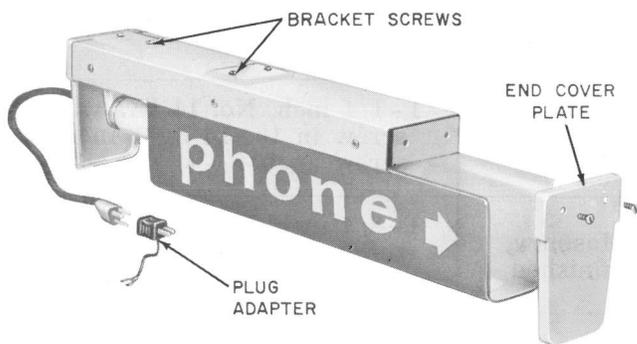

Fig. 11—KS-16422 Sign—Assembly of Parts
3.06 The four threaded holes on top of the unit (Fig. 11) are equipped with No. 8-32 by 7/16 BHM screws and No. 8 lockwashers. Use two screws to attach the unit to the mounting bracket and two to seal the holes not used.
3.07 Install F15T12/CW lamp as follows (Fig. 11).
A 3-wire grounded electrical receptacle is preferred; however, a 2-wire receptacle may be used with the use of a plug adapter (Fig. 11). If ground potential is not available at the receptacle, run a No. 14 AWG wire from the adapter to a suitable ground.